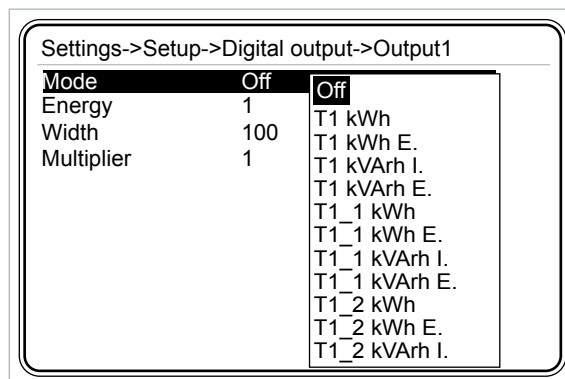

Figure 3-36 Output1 Menu
**Mode:** Press up and down keys to navigate between digital outputs. Press OK on the desired output, and options seen in Figure 3-36 will appear. Any of them can be assigned as output1 operating mode.